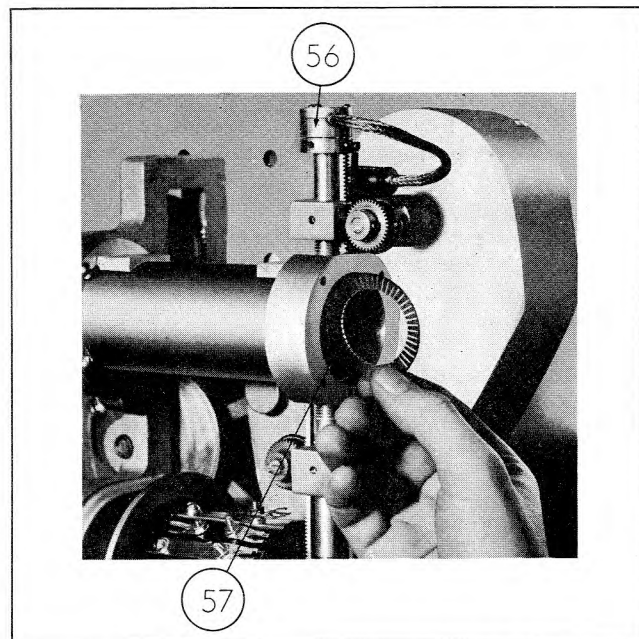

Figure 4-42. Positioning of Inner Grid Contact Ring
Figure 4-42 shows the monitor pick-up (56) inserted into the RF probe holder. The pick-up should be inserted until the collar on the pick-up seats against the collar on the rack. The set screws in the latter should then be tightened.
Figure 4-42 also shows the manner in which the inner resonator grid contact ring (57) is inserted. The ends of the fingers on the contact ring should point out of the cavity. The ring should be seated against the flange about $3/8$ inch from the end of the cavity.